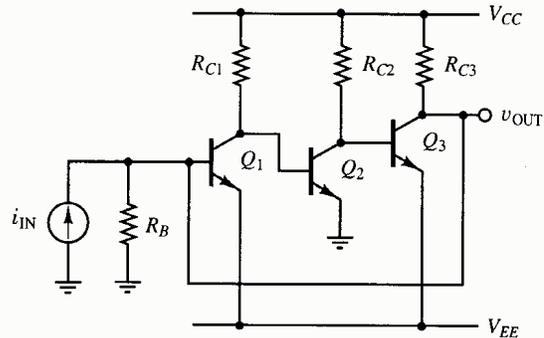

Fig. P10.71
10.71 ○ Consider the three-stage feedback amplifier of Fig. P10.71 with $R_{C1} = R_{C2} = R_{C3} = 5\ \text{k}\Omega$ and $R_B = 1\ \text{k}\Omega$. Identify the feedback function β , then find the closed-loop gain A_r , the input resistance R_{in} , and output resistance R_{out} .